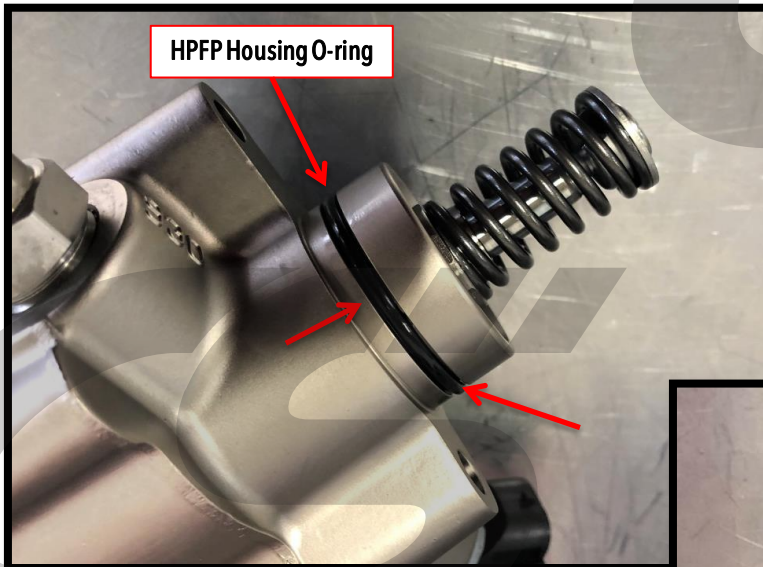

Figure 2a
- a) Remove the OEM HPFP housing O-ring from the outside of the HPFP. Use a pick tool or tweezers to remove this O-ring from the HPFP. Shown with **red arrows** in **Figure 2a**.
- c) Once satisfied with your cleaning job, locate the CorkSport HPFP Housing O-ring. Lubricate this O-ring with a small amount of new engine oil and install it where the OEM one was removed. Location shown with **red arrows** in **Figure 2a**.